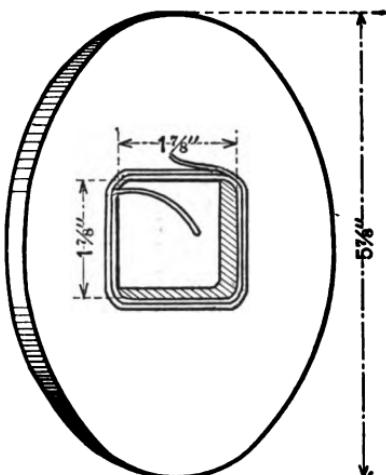

FIG. 195.—ONE OF DISKS OR PIES FOR SECONDARY.
**The Secondary Coil.**—The secondary coil should be wound in thin disks called *pies*, as shown in Fig. 195.
Five pounds of this sized wire will make about 31,500 turns of wire altogether, but it must be divided up into 15 disks or *pies*, each of which is  $\frac{1}{4}$  inch thick and has an opening  $1\frac{1}{8}$  inches square and an outside diameter of  $5\frac{1}{8}$  inches as shown in Fig. 195; thus the number of turns of wire in each pie is 2,100.
Lay the revolving part by for half an hour or until the paraffin is cold and hard. You can then loosen the screw in the block that holds the left-hand cheek to the spindle. Slip the blade of a table knife between the rings of paper and the cheeks all round when the upper cheek can be lifted off and the wire pie can be taken off as smoothly as you please. Strip off the rings of paper when the pie will look like the drawing, Fig. 195.